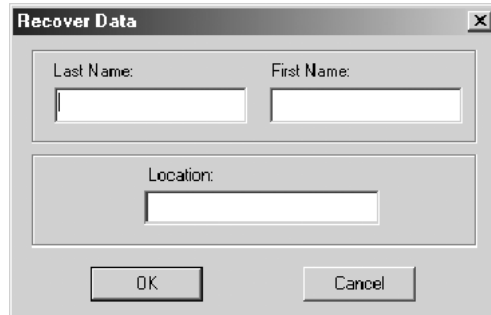

Figure 14 A screenshot of the Recover Data dialog box.
- Click on the Utility menu, then on Recover Data, or simply click on the Recover Data button on the toolbar of the Main Screen. The Recover Data dialog box appears (See **Figure 14**).